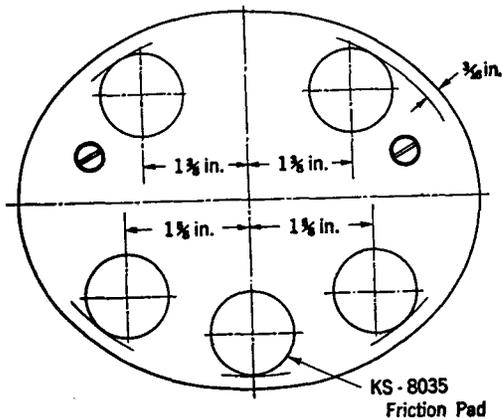

Fig. 3—D Type Hand Set Mounting.
- The approximate locations on the hand set mounting base at which the friction pads per KS-8035 shall be attached are indicated in Figs. 3, 4 and 5.